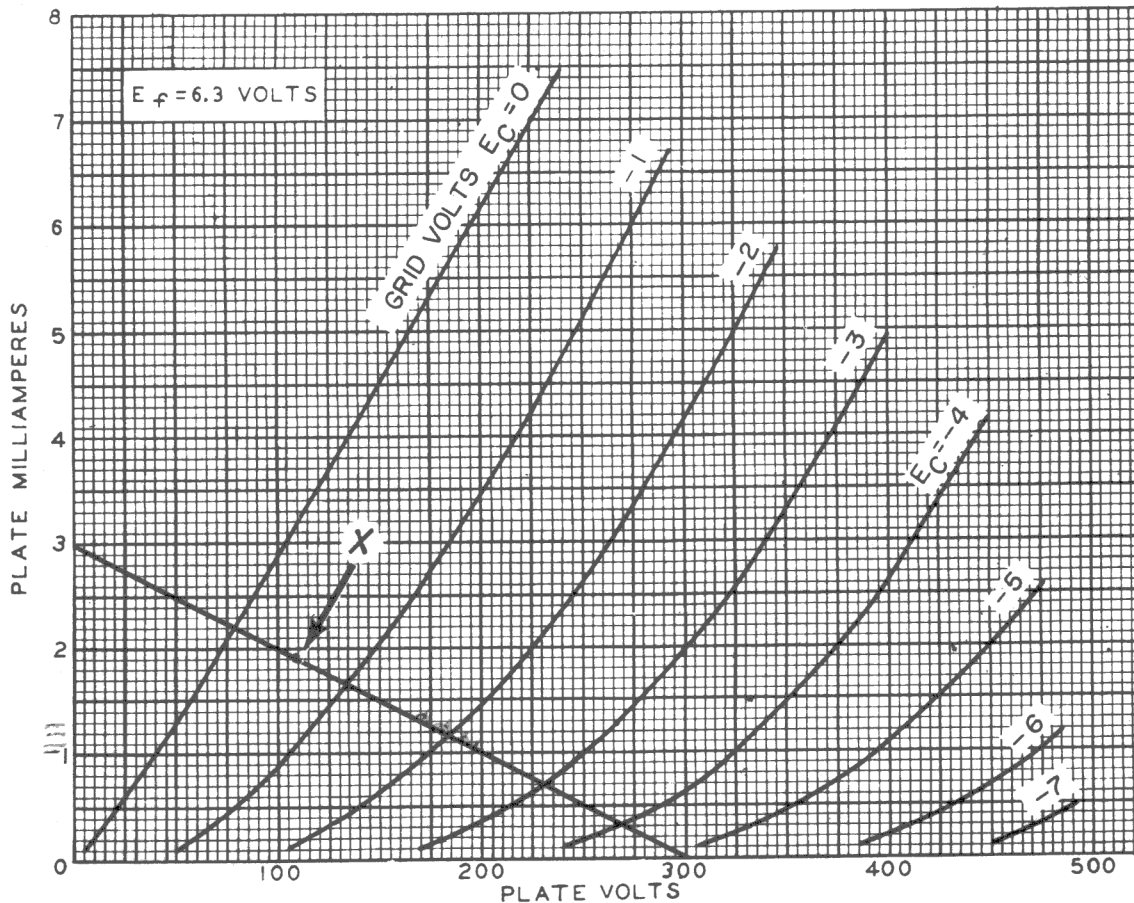

Fig. 25-9
current. The bias voltage is then found by using the 6AT6 characteristics, which are given in Fig. 25-9. The load line for a 100 k-ohm plate load and 300 volt B+ voltage has been drawn on the chart. Mark the point along the load line corresponding to the current measured. From the position of this point with respect to the characteristic curves, estimate the bias on the tube. For example, suppose that 1.9 ma is measured. The point on the load line corresponding to 1.9 ma is shown at X on the figure. This point is located almost halfway between the $E_c = 0_v$ line and the $E_c = 1$ volt line, and therefore the bias corresponding to 1.9 ma must be 0.5 volts.
Step 11. Using the tube characteristics given in Fig. 25-9, determine the bias for